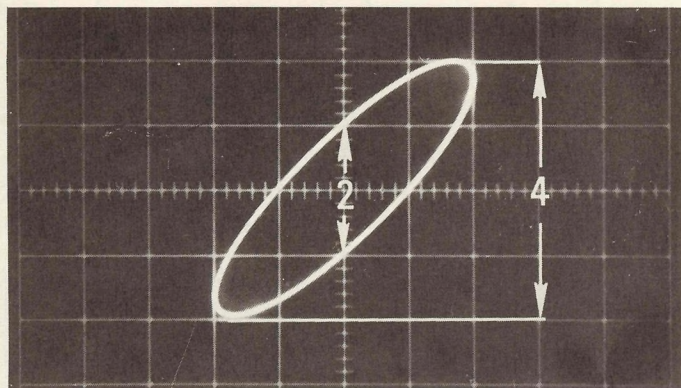

Fig. 11. Measuring phase shift between signals.
3. Reconnect CHANNEL A to the first signal and use the following formula to find the phase angle. For Fig. 11.